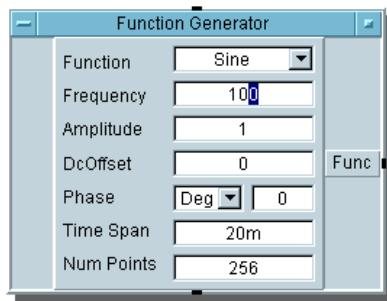

Figure 1-28. Highlighting a Frequency Field Number
7. Click the Frequency field to the right of the value 100, and while holding the mouse button down, move the mouse to the left to highlight the last 0, as shown in Figure 1-28.